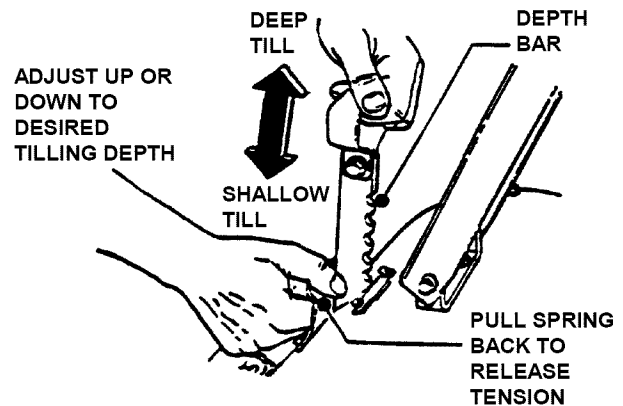

FIGURE 7
2.6.1 FORWARD/REVERSE: To transport the Tiller to a new tilling site using its own power, raise the tines to clear lawn and paved surfaces to prevent gouging. Release the WHEEL and TINE CONTROL BAIL and lift the rear of the Tiller to take the weight off the DEPTH BAR (see Figure 7), then push the DEPTH BAR downward into notch setting that allows the tines to clear the ground surface. Place the WHEEL and TINE SHIFT LEVER in FWD or REV. Pull the WHEEL and TINE CONTROL BAIL back against the handlebar to engage the wheel drive and transport the unit.
2. Set DEPTH BAR in highest position for deepest tilling depth or in intermediate notches for lesser depth. See Figure 7.